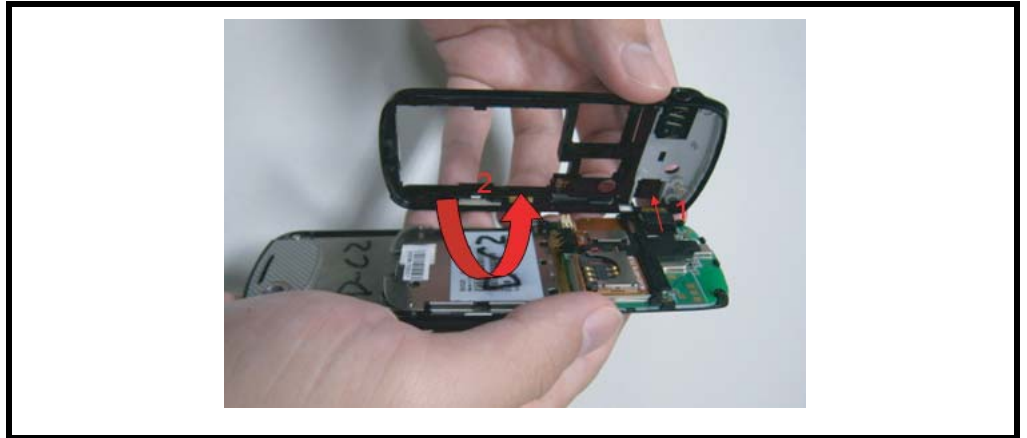

Figure 10. Replacing the Lower Housing Cover
- To Replace, align the earphone jack to the lower housing as in Figure 10.